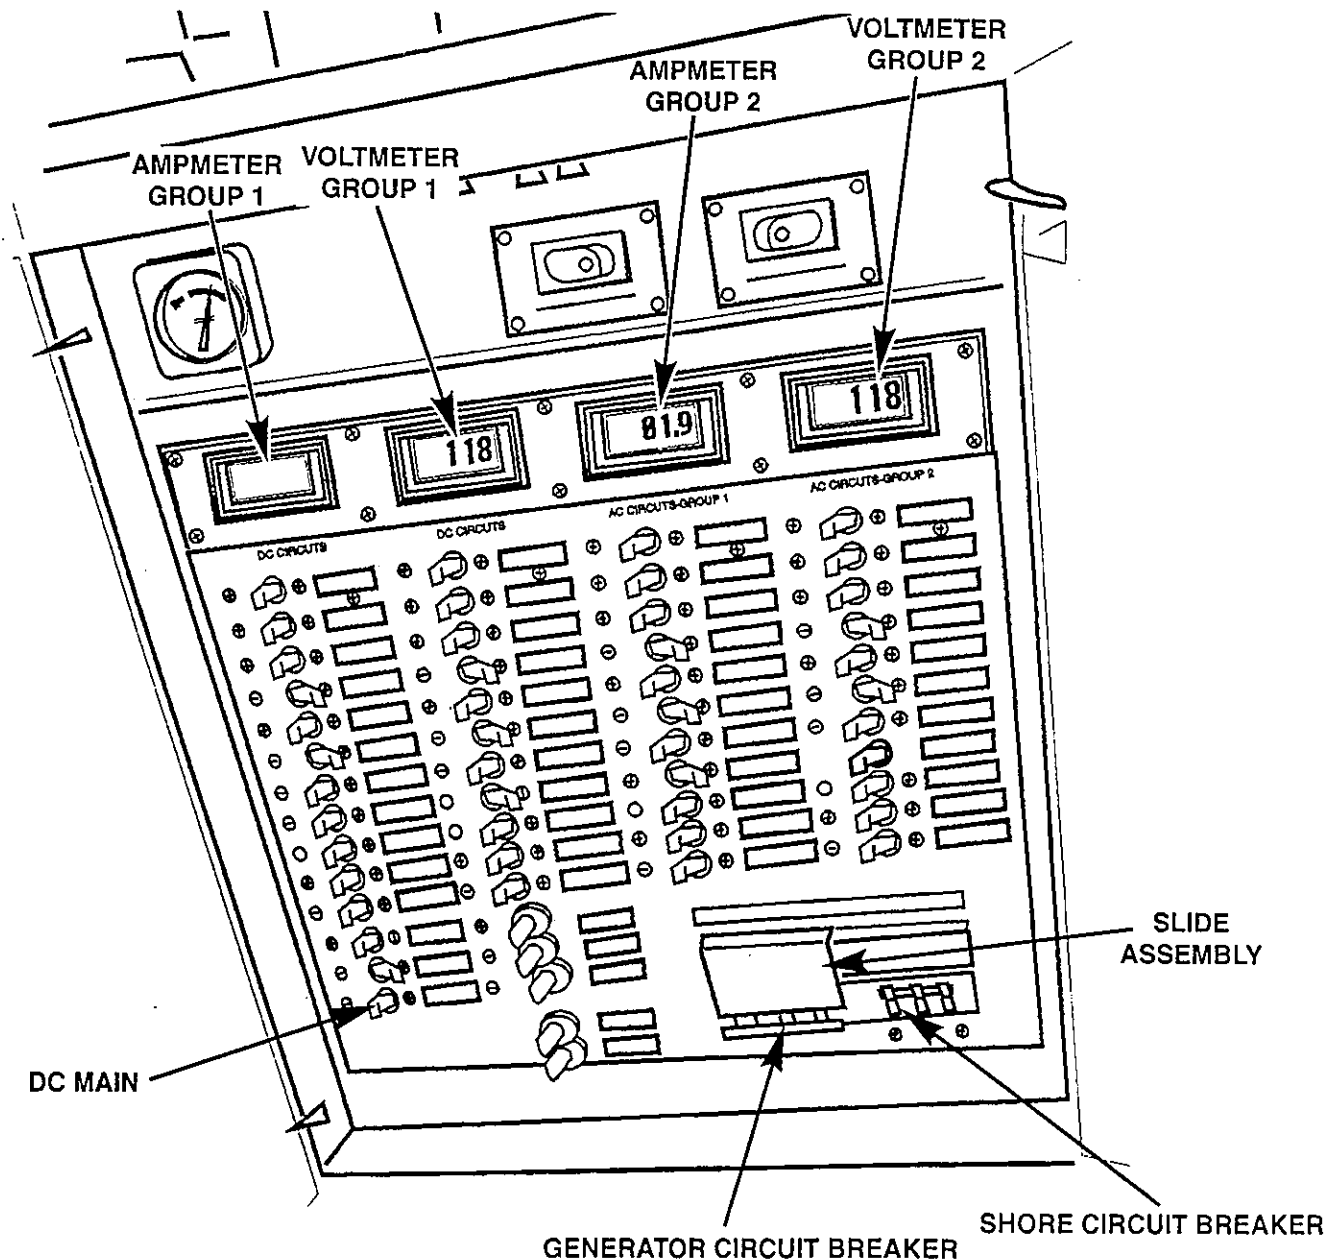

Figure 3-21 Master Control Panel
1. See Figure 3-21. Turn all 120V breaker switches OFF. Set the GEN circuit breaker to OFF. Wait 2 minutes and then slide the cover on the selector switch over the GEN circuit breakers. If installed, set the breaker switch marked CABLEMASTER on the DC Master Control Panel to ON.
See Figure 3-21. Set the DC MAIN breaker switch on the Master Control Panel to ON.
See Figure 3-21. To operate, make sure the breaker switch HEAD STBD and/or HEAD PORT are ON.